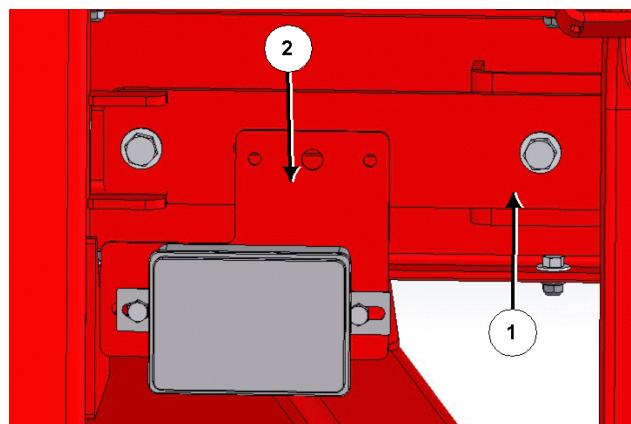

Figure 8: Install load cell junction box
10. Re-install the load cell junction box bracket onto the front conveyor support bracket, as per *Figure 8*.
- a. Line up the holes on the load cell junction box bracket (2) with those on the front conveyor support bracket (1), and fasten using existing hardware.